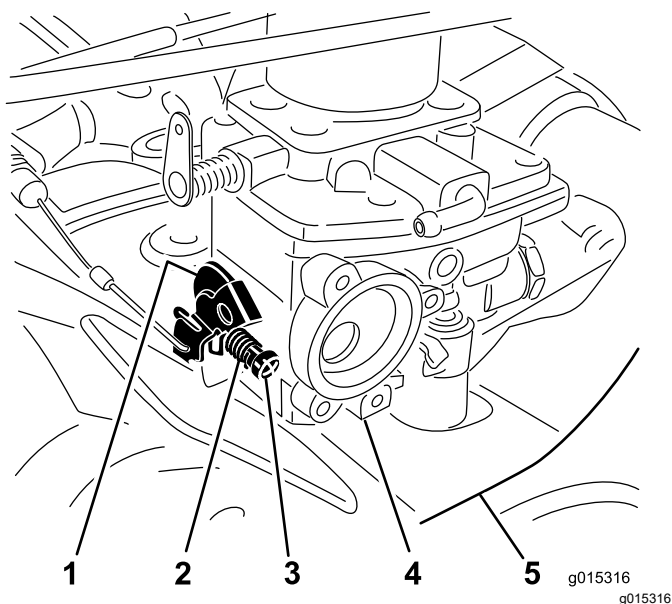
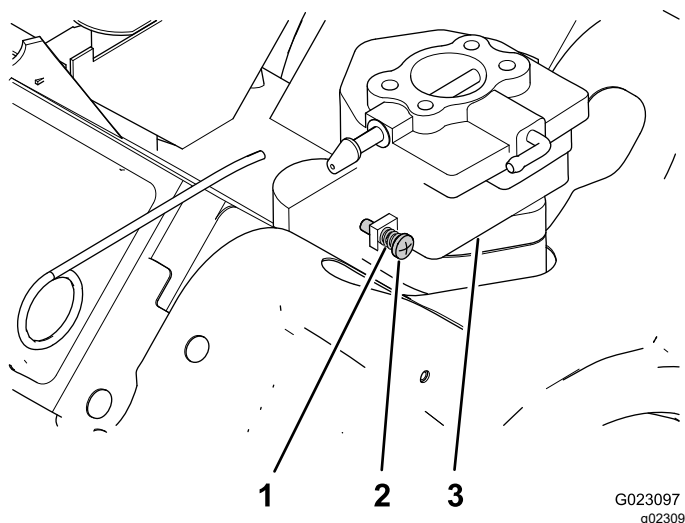

Figure 7
Figure 8
9. **For MDX machines only:** Install the idle screw and the spring to the carburetor assembly at the throttle lever (Figure 7).
10. Thread the screw into the throttle stop clockwise until it makes initial contact with the throttle lever, then turn the screw an additional revolution clockwise (Figure 7).
2. Adjust the idler screw to achieve a low idle of 1,050 to 1,150 rpm (Figure 7 and Figure 8).